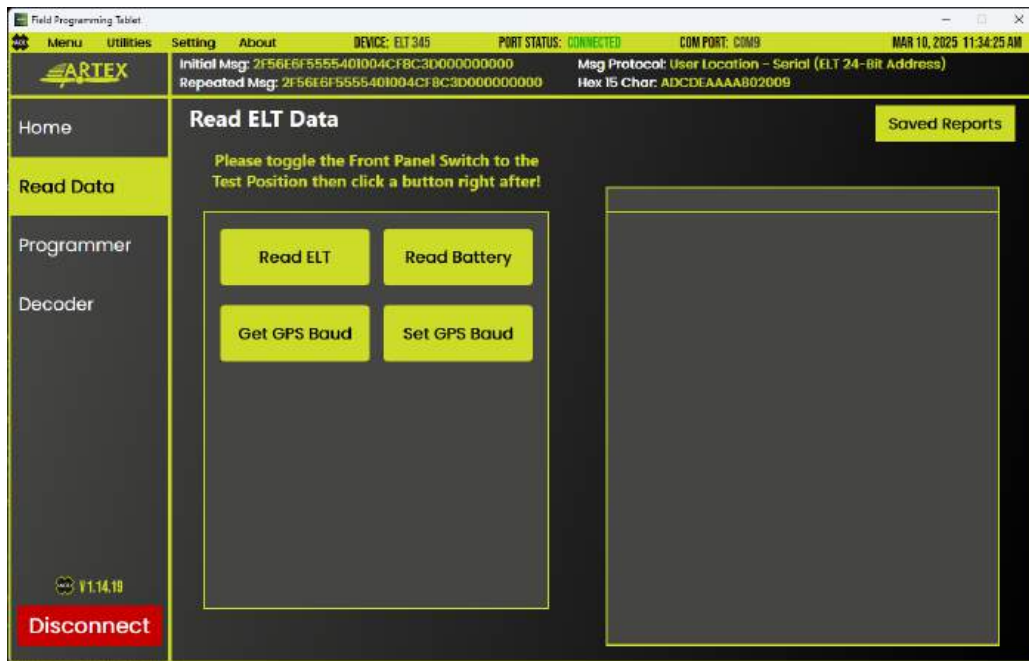

Figure 10 - FPT Read Data Screen
1. The Read Data page (Figure 10) allows the FPT user to read ELT and Battery data from their respective memory.